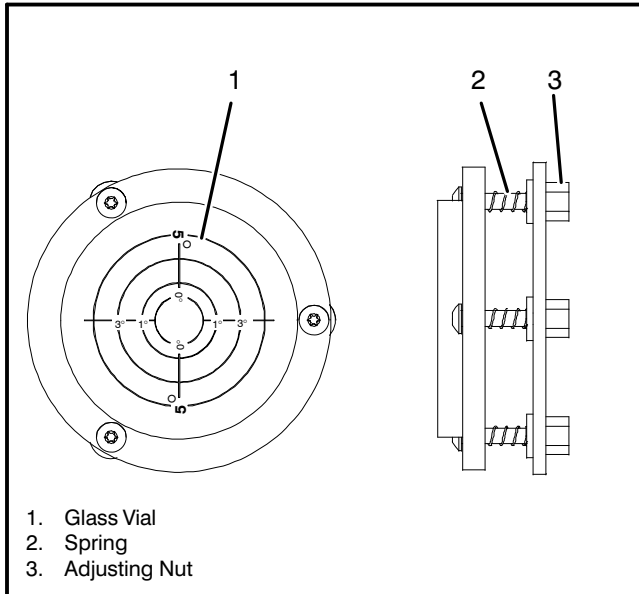

Figure 3-8
4. Rotate the adjustment nuts as required until the bubble is centered within the vial. Refer to Figure 3-8.